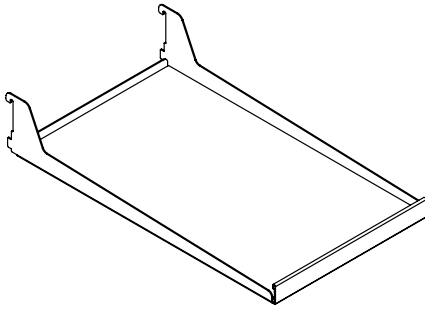

Figure 26
(2) frame and flat glass shelf. (See Figure 26).
- (1) half width flat glass cantilever shelf. (See Figure 26).